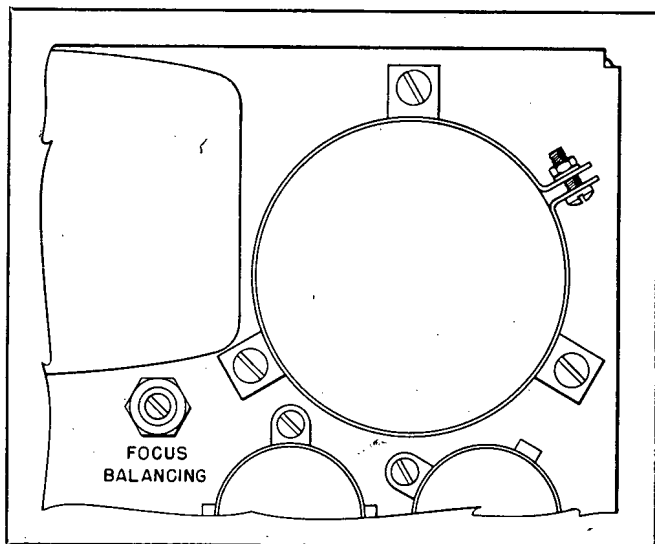

Figure 3-38. Monitor Scope, Focus Balancing Control
(26) Adjust the FOCUS BALANCING control (R-335) to obtain maximum definition and uniformity of the sweep trace. This control is located on the top rear center of the chassis, and is shown in Fig. 3-38. If necessary, re-adjust the FOCUS BALANCING control after a video signal has been applied to the Monitor Scope in subsequent procedures. After the final re-adjustment, the FOCUS BALANCING control should be in the proper operating position and should require no further attention as the equipment is used. Lock the control.
(27) Adjust the RANGE SELECTOR switch S-301 to the 20 position. Adjust SWEEP LENGTH control R-313 until end of sweep coincides with 4 on the scale.
(28) Place the PULSE LENGTH switch in its